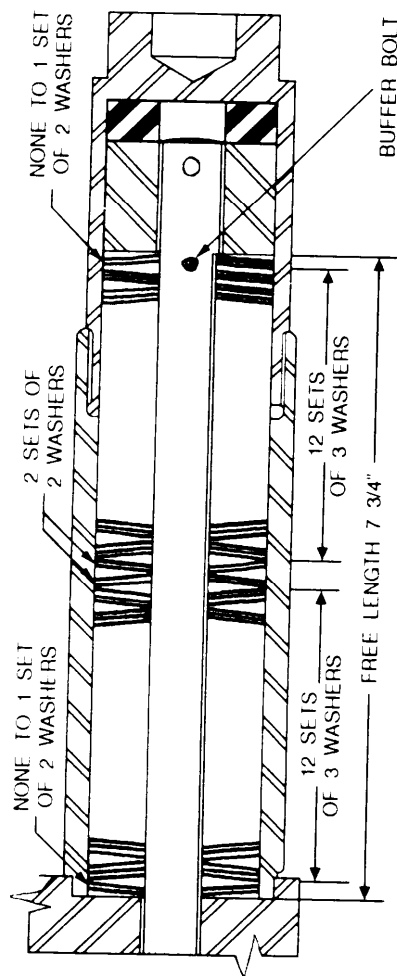

Figure 12-64. Buffer bolt.
**BASE ASSEMBLY.**— The anvil block in the base assembly group is held in place by buffer bolts and has compression rings identical to those on the ram piston (fig. 12-64). Radial thrust or side thrust to the hammer is transmitted to the leads through the thrust bearing. A vibration damper, concealed under a shroud, isolates the cylinder from the shock vibration of the anvil. Buffer bumpers absorb the recoil from the Belleville washer type of buffer springs connected to the anvil by buffer bolts, dampening overtravel and holding the hammer together. Pins lock the buffer compression nuts to the buffer bolts and are held captive by the buffer housing